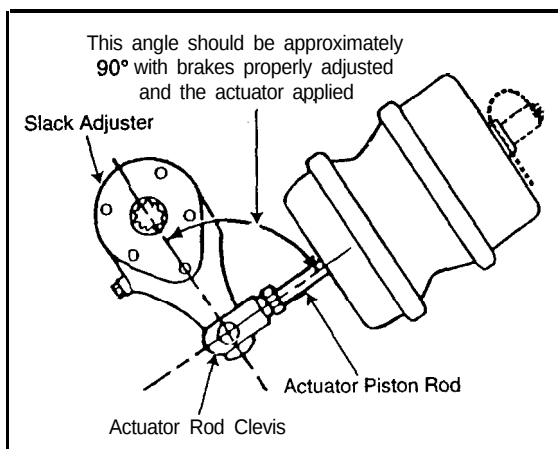

Fig. 2
23. Depress the service brake treadle and hold. Service brakes on all axles of all vehicles must apply. Check to ensure that the angle of the push rod to slack adjuster is approximately 90 degrees. See Fig. 2.
- Depress service brake treadle and hold, service brakes on all vehicles must apply. Check to assure that the angle of the push rod to slack adjuster is approximately 90°. (See **Fig. 2**)